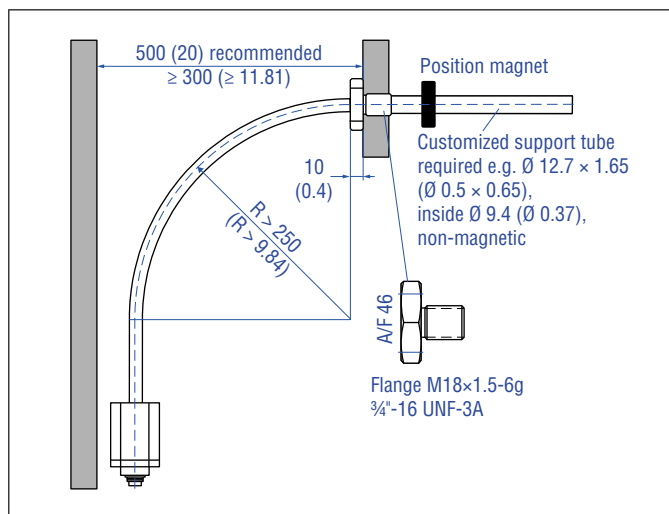

Fig. 29: Clearances for installation and handling
3. Note the minimum distance to a spatial limitation of 300 mm (11.81 in.), when mounting/dismounting the sensor. The recommended distance is 500 mm (20 in.) (Fig. 29).